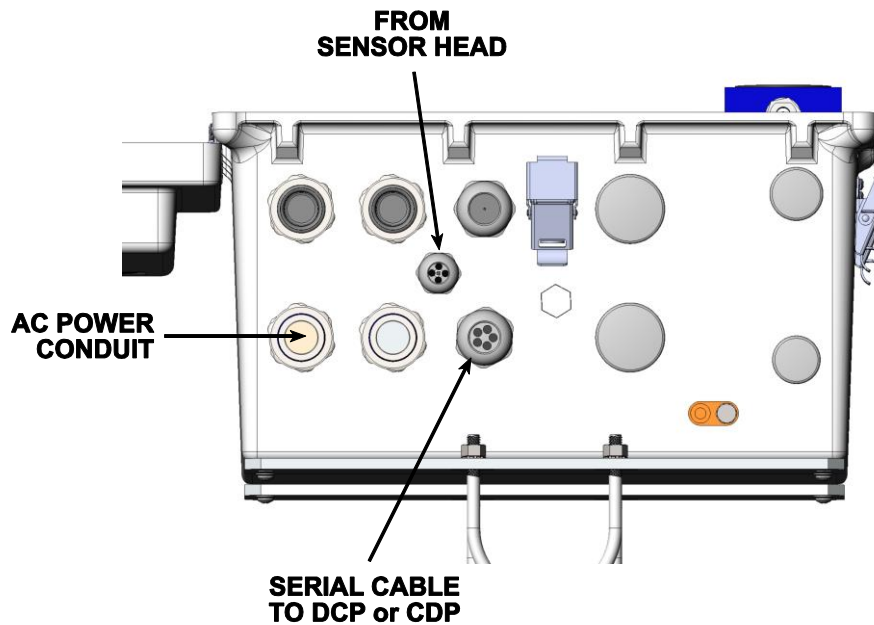

Figure 6. External Connections at Enclosure Bottom
Figure 6 shows the external connections at the bottom of the enclosure.
1. Route the cable from the sensor head into the electronics enclosure as shown in Figure 6.
2. Feed the free end of the shielded serial cable through the serial cable gland shown in Figure 6.
1. Install a conduit fitting at the location shown in Figure 6. Feed the power cable through the conduit fitting. A 3-wire 16 to 18 AWG cable is recommended.